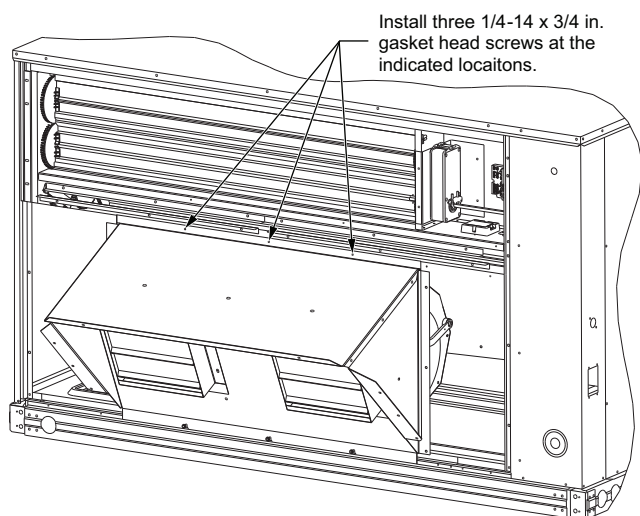
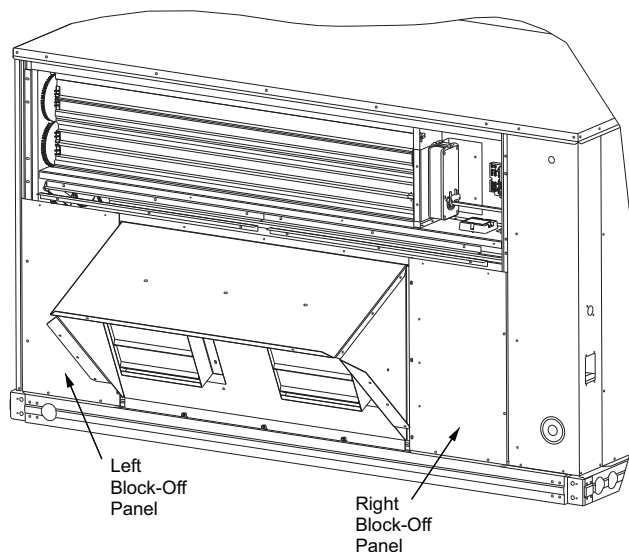

Fig. 8 — Install Power Exhaust Fan Assembly on Vertical Return Air Applications
Fig. 9 — Power Exhaust Block-Off Panels Installed for Vertical Return Air Applications
4. Place power exhaust fan assembly on lower flange of power exhaust opening as shown in Fig. 8. Make sure that all three screws line up in the slots in the power exhaust bottom flange.
NOTE: Figures 8 and 9 are shown with the economizer hood removed to provide a clear view of the flange at the top of the power exhaust fan assembly (Fig. 8) and the tops of the block off panels (Fig. 9).
5. Install three 1/4-14 x 3/4 in. gasket head screws (AL31AZ308) in the three locations at the top flange of the power exhaust fan assembly. (See Fig. 8.)
6. Tighten the three screws at the bottom of the power exhaust fan assembly, installed in Step 3 above. (See Fig. 8.)
7. Install the left block-off panel with two No. 10 x 5/8 in. serrated head screws (AL48M217) at the bottom edge. Make sure the top edge of left block-off panel is behind the flange of the upper economizer panel. Install three 1/4-14 x 3/4 in. gasket head screws (AL31AZ308) to secure the left block-off panel to the flange on the power exhaust fan assembly. Install four No. 10 x 7/8 in. gasket head screws (AL31AZ219) to secure the left block-off plate to the unit corner post and the upper economizer panel. (See Fig. 9.)
13. Install the right block-off panel with two No. 10 x 5/8 in. serrated head screws (AL48AM217) at the bottom edge. Make sure the top edge of the right block-off panel is behind the flange of the upper economizer panel. Install three 1/4-14 x 3/4 in. gasket head screws (AL31AZ308) to secure the right block-off panel to the flange of the power exhaust fan assembly. Install four No. 10 x 7/8 in. gasket head screws (AL31AZ219) to secure the right block-off panel to the unit corner post and upper economizer panel. (See Fig. 9.)
14. Install six 1/4-14 x 3/4 in. gasket head screws (AL31AZ308) in three holes in the left and right side block-off panels to prevent water leakage into the unit. These holes are for mounting the power exhaust in the shipping position but are not needed for accessory power exhaust applications. (See Fig. 9.)